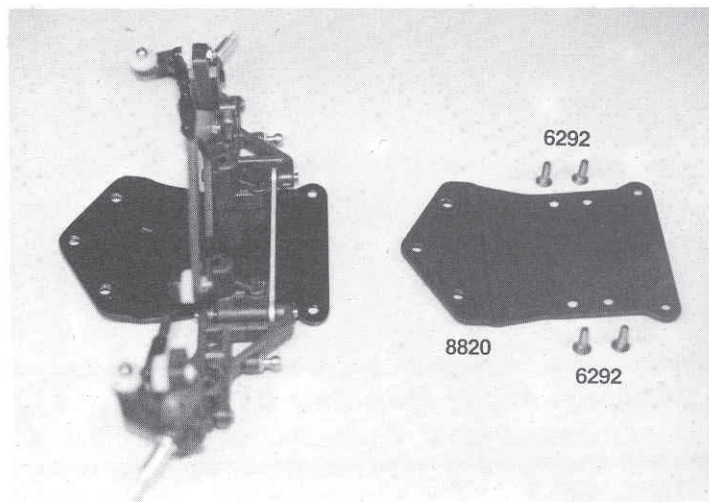

Fig. 21
□ **Fig. 21** 1) Go back to bag #8-1 and remove the #8820 front aluminum kick up and four #6292 4-40 x 3/8" flat head socket screw. 2) We are now going to attach the front bulkhead to the aluminum kick up. Place the front end over the kick up, then holding both parts, turn them over. 3) On the bottom side you will find four countersunk holes. Locate the bulkhead over the four holes and then thread the #6292 screws into the four holes with your 1/16" Allen wrench. 4) After all four screws have been installed, go ahead and tighten them down.